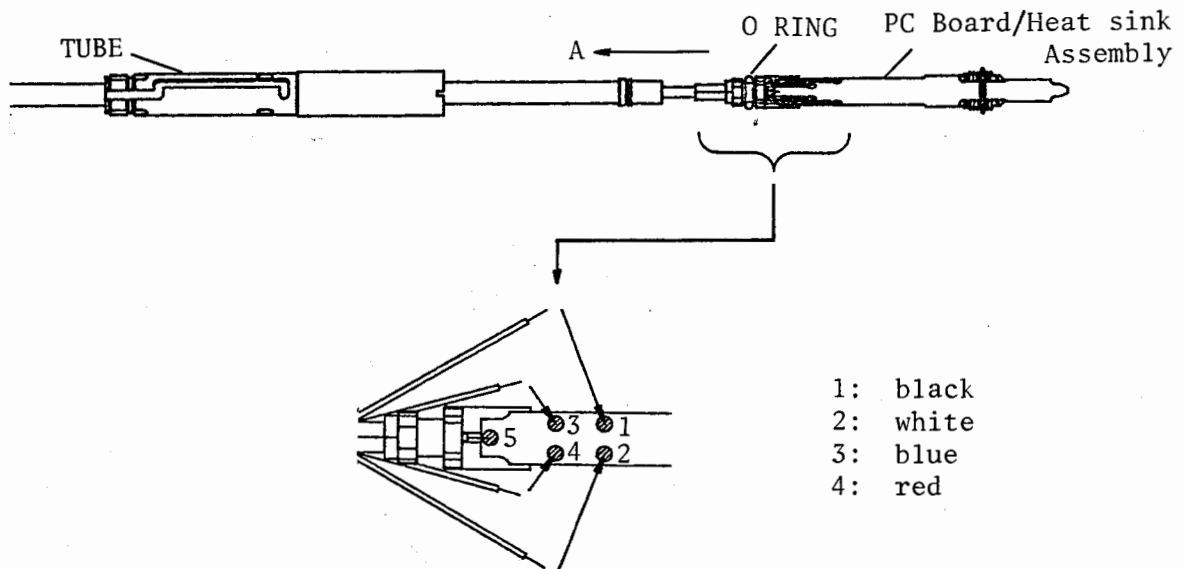

Figure 6-8. O Ring and Lead Removal
6. Slide the O RING in direction **A** as shown in Figure 6-8.
7. Remove leads No. 1 through 5 as shown in Figure 6-8, from the PC Board/Heatsink assembly.